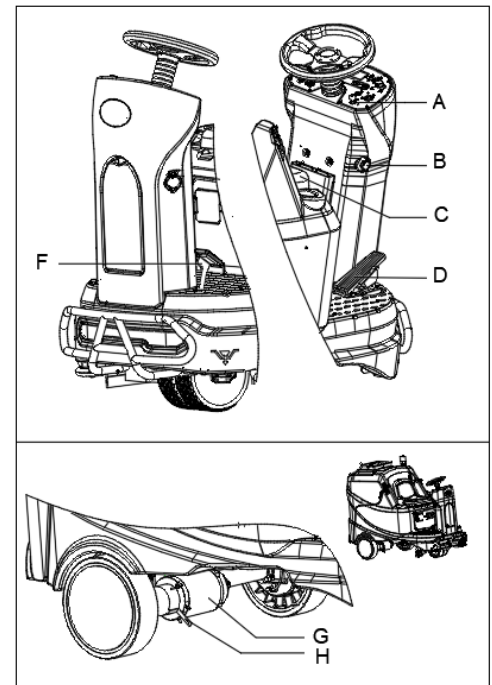

Figure 12
1. Turn the ignition key (A, Figure 12) to “I”, sit on the seat (C).
2. Depress the accelerate pedal (D) slightly then release it to check if the machine can be steered forward and stopped.
3. To ensure safety, confirm the machine can be stopped immediately when pressing the emergency button (B). Rotate the emergency button to reset it.
4. Depress the mechanical brake pedal (F) quickly to check if the machine can be stopped immediately.
The brake of drive motor is released when the motor works normally, it locks when the motor is off. In some special cases, such as machine packing/unpacking, machine fault etc., the machine may need to be pushed. On drive motor (G, Figure 12) push down the brake handle (H, Figure 12), the machine brake is released, and the machine can be moved. After completion, push up the handle back, so the machine can work.